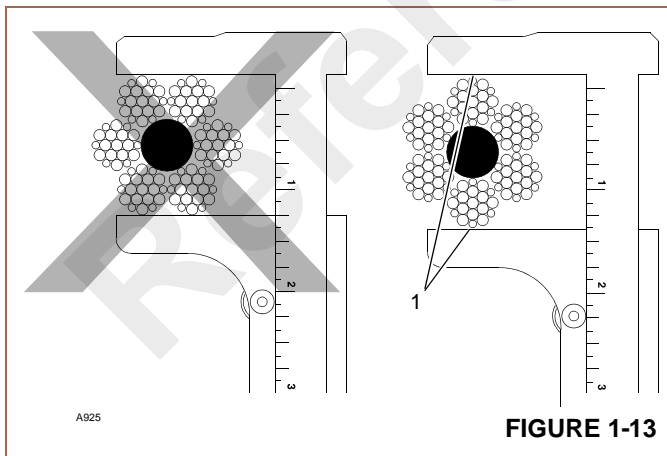

FIGURE 1-13
12. Measure the rope's diameter across crowns (1) of the strands when determining if rope has become damaged (Figure 1-13).